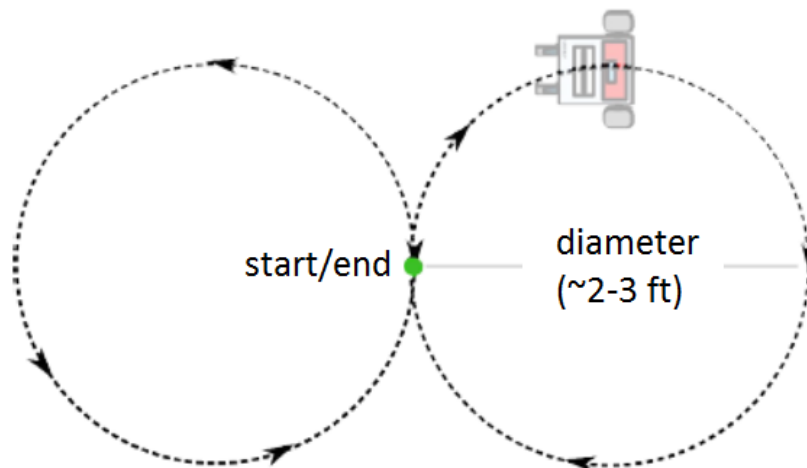

Figure 5: Figure Eight Robot Motion
3. Finally, modify the “Circle” program to create a “FigureEight” program to move the robot in a figure eight using two circles (see Figure 5).
4. Finally, modify the “Circle” program to create a “FigureEight” program to move the robot in a figure eight using two circles (see Figure 5).